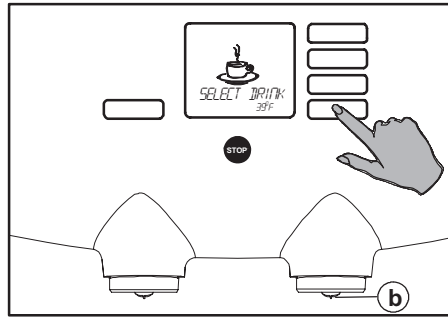

Fig. 16 Select the pot button
2. Press the selection button for a pot of drink (fig. 16).
- Now the dispenser dispenses the drink from the right-hand outlet (fig. 16 b) and stops automatically after one pot has been dispensed.